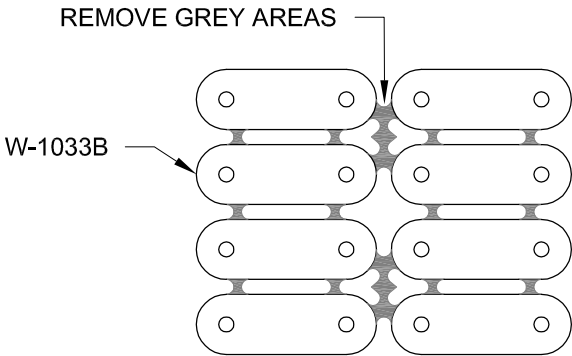

FIGURE 2: AILERON TRIM LINKS
Step 4: Separate the W-1033B Aileron Trim Links as shown in Figure 2.